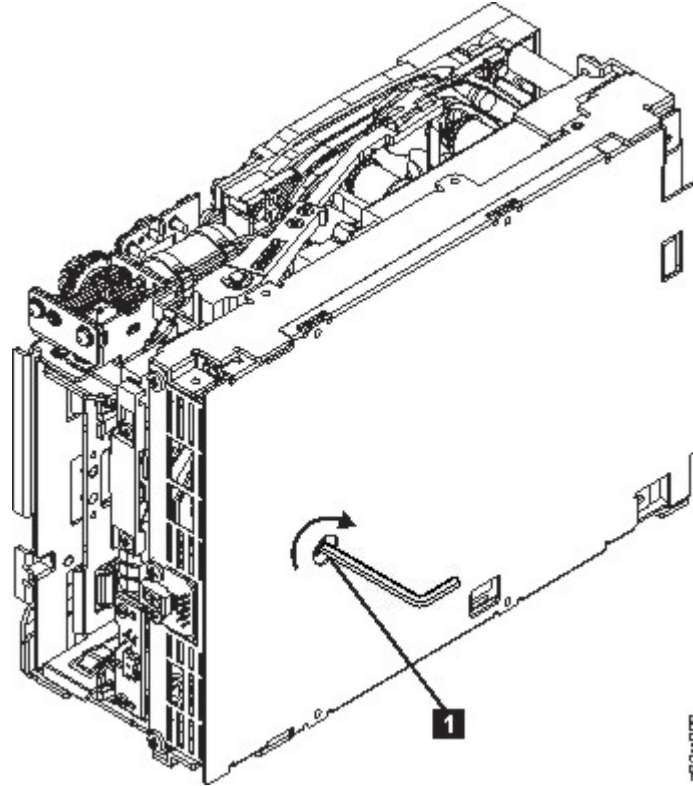

Figure 105. The hex wrench rewinds tape into cartridge
3. Locate the threader motor worm gear (4) the rear of the drive. Use your finger to rotate the threader motor worm gear and slowly rotate the threader mechanism gear (6) clockwise. This action rotates the threader motor worm gear (4) clockwise, drawing the tape leader block assembly (LBA) into the cartridge.
4. As the LBA is secured in the cartridge, you hear the LBA retention spring clips click into place. If you do not hear the click, continue rolling until the threader motor worm gear (4) stops. The LBA is in the correct position.
**Note:** Be sure to keep tension on the tape as the LBA is drawn into the cartridge by using a hex wrench as shown in Figure 105 on page 182.
- a. Loader mechanism gear (8) nearest the front of the drive that actuates the cartridge loader mechanism
- b. Position of the rotator stub (3).
- c. Front loader motor worm gear (1). Rotating this gear allows the loader mechanism gear (8) to turn.
6. Rotate the loader motor worm gear (1) to turn the loader mechanism gear (6) counterclockwise. Continue turning until the rotator stub (3) loses contact with the lever (7). This action releases the LBA leader pin.
7. Rotate the threader motor worm gear (4) to turn the threader mechanism gear (6) counterclockwise. This action moves the LBA out of the cartridge and past the read/write head. Stop this rotation when the LBA is near the tape guide roller nearest the rear of the drive (1).